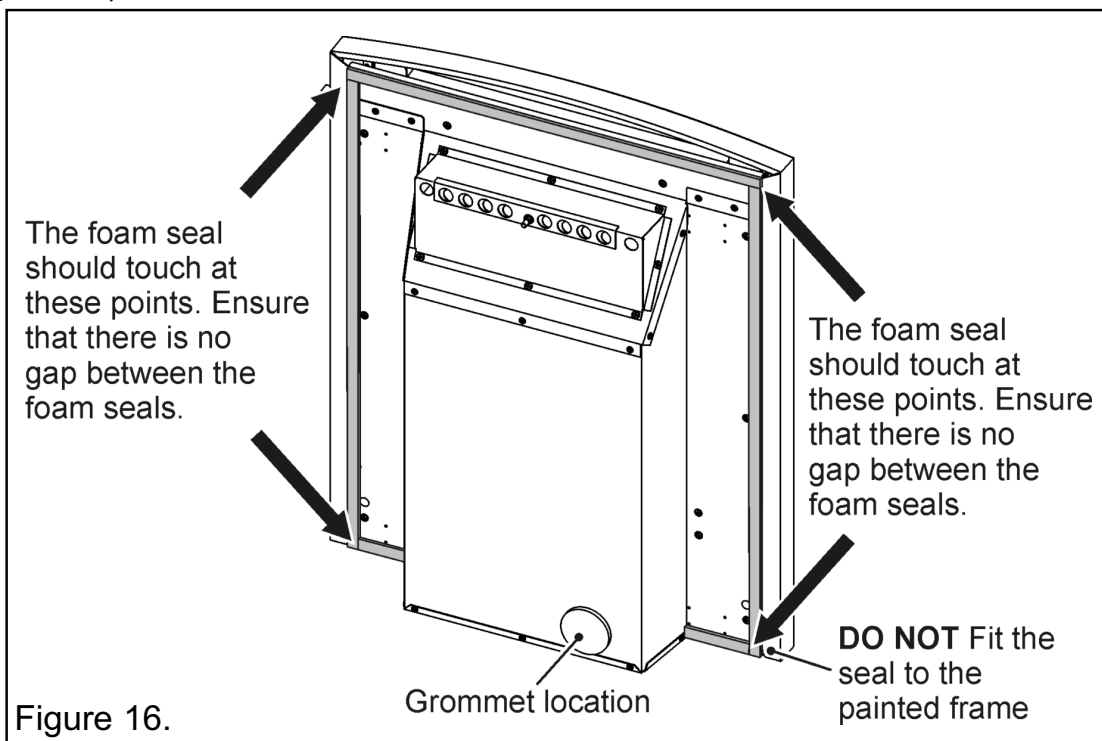

Figure 16.
5. It is important that the grommet supplied in the loose parts pack is fitted to the hole in the rear of the convection box (See figure 16).
There is a length of self adhesive foam seal supplied with the fire. This will need to be fitted to the rear of the convection box as shown in figure 16. Cut the foam seal to the required lengths. Be careful not to stretch the seal when measuring. Remove the protective backing from the foam seal and fit this to the rear of the convection box flange (See figure 16).